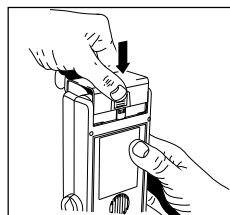

Fig. 20
- Close the battery flap (see Fig. 20).